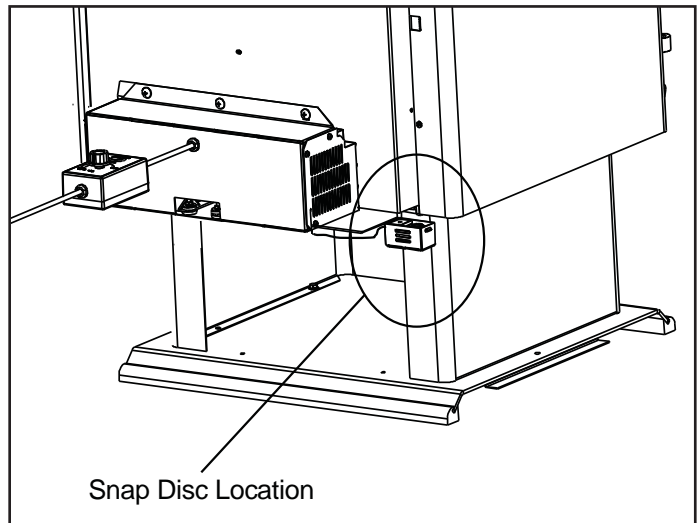

Figure 31.3
1. Locate the snap disc bracket assembly at the bottom left rear corner of the stove. **Figure 31.3.**